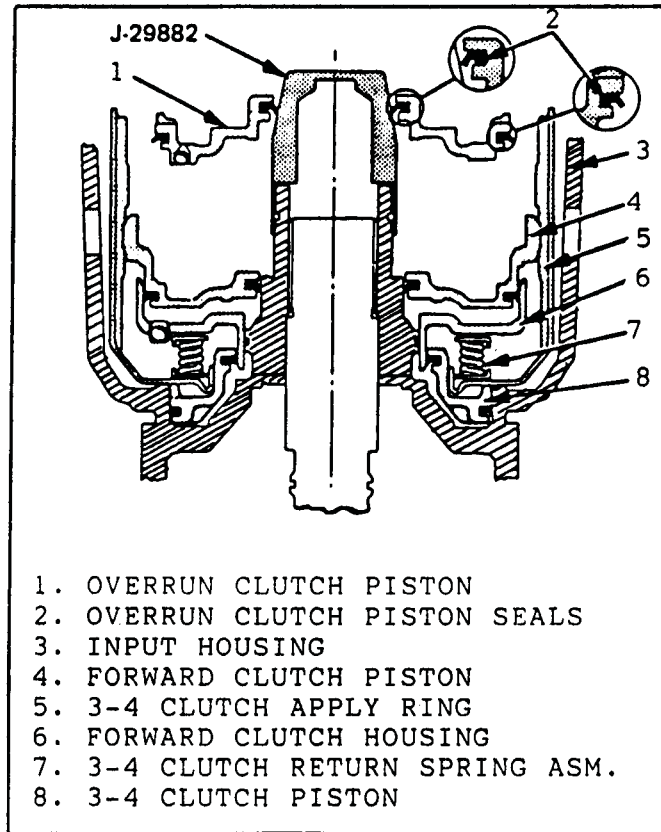

Figure 89
13. Install the inner and outer lip seals on the overrun clutch piston, and lubricate with TransJel. Lip seals must face direction shown in Figure 89.
14. Install the overrun clutch piston over tool J-29882, with hub facing up as shown in Figure 89.